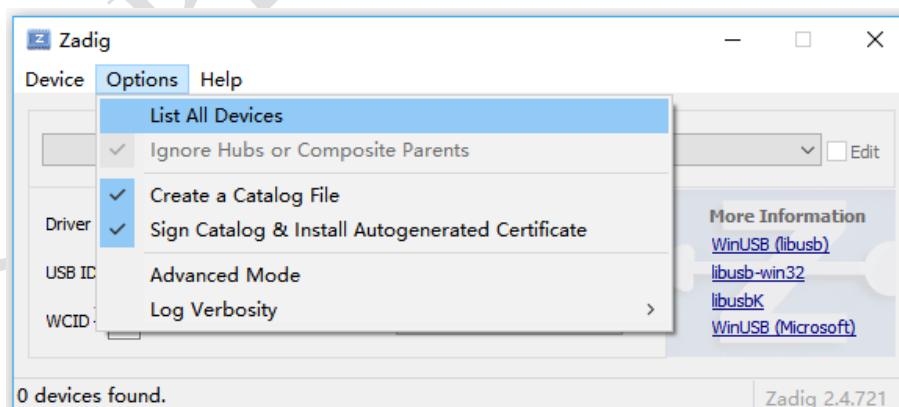
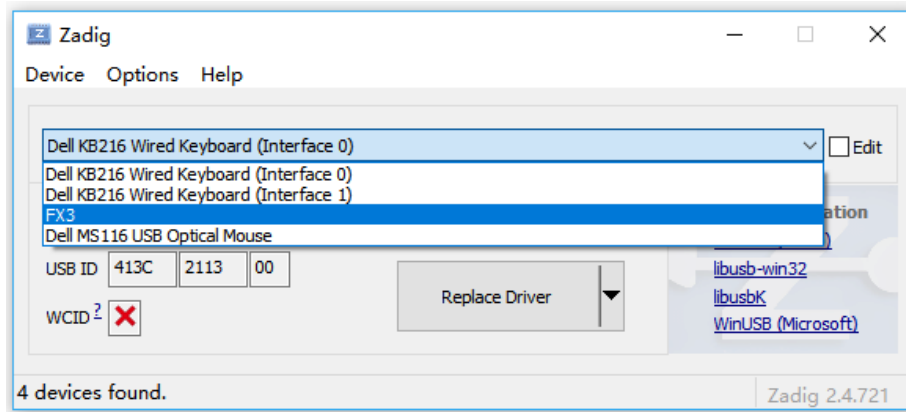

Fig. 1-2
Fig. 1-3
- (2) Select Options → List All Devices (Fig. 1-2), then select device FX3 (Fig. 1-3).